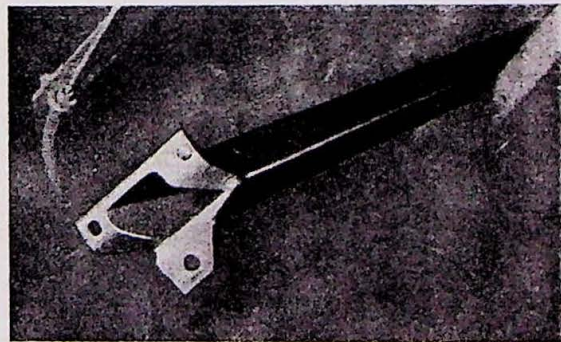

Fig. 5.
6. Place jack under gearbox and remove the cross member (mounting plate on PV 444) to which gearbox is attached. fig. 5.